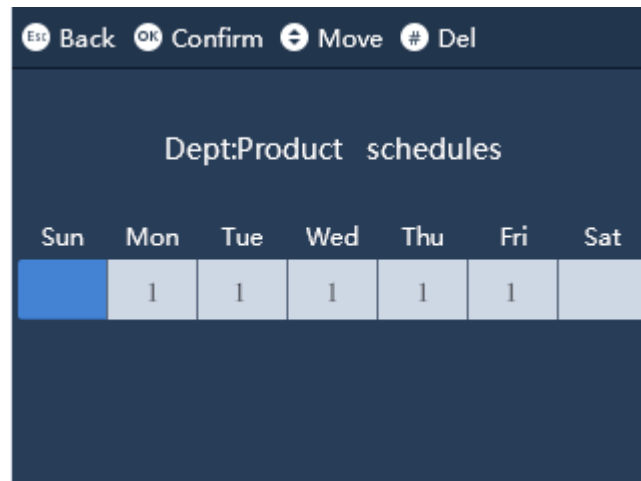

Figure 3-8
Step 2. Click department set, click , see Figure 3-8.